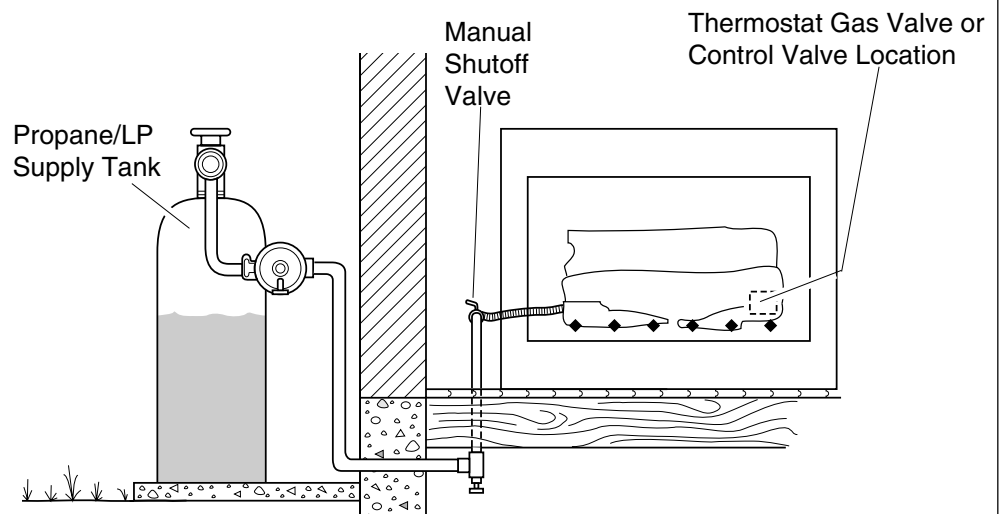

Figure 16 - Checking Gas Joints
3. Check all joints from propane/LP supply tank to manual shutoff valve (see Figure 16). Apply mixture of liquid soap and water to gas joints. Bubbles forming show a leak.
4. Check all joints from manual shutoff valve to thermostat gas valve (thermostat-controlled models) or control valve (variably-controlled models) (see Figure 16). Apply mixture of liquid soap and water to gas joints. Bubbles forming show a leak.